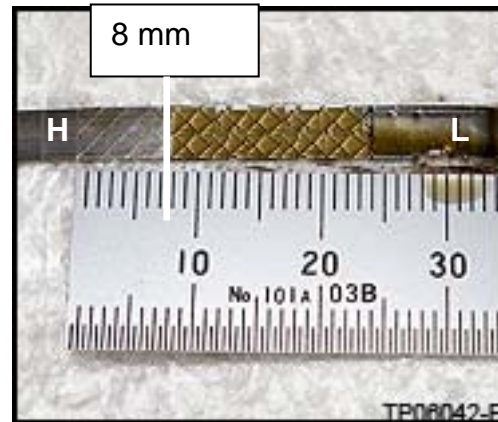

Figure 5
13. Write down the exact oil level reading using the engine dipstick and ruler (see Figure 5).
- The example in Figure 5 shows the oil level is 8 mm below the H mark.